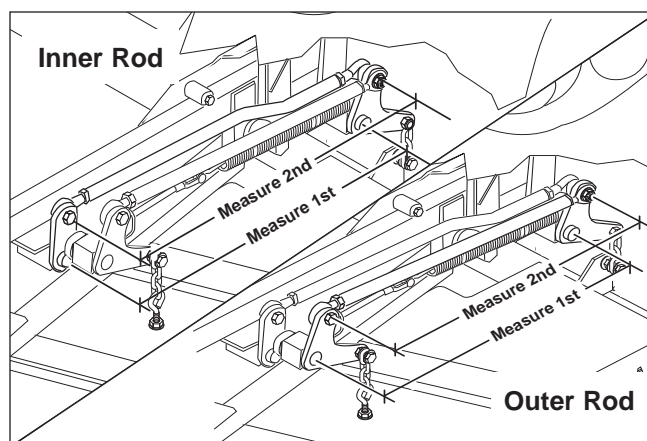

Figure 43. Measure the Inner & Outer Lift Rods
2. To check the inner lift rod timing, measure and record the distance between the inner lift pivots and the inner rod pivots. Repeat for other side of unit. See Figure 43.
3. To check the outer lift rod timing, measure and record the distance between the outer lift pivots and the outer rod pivots. Repeat for other side of unit. See Figure 43.